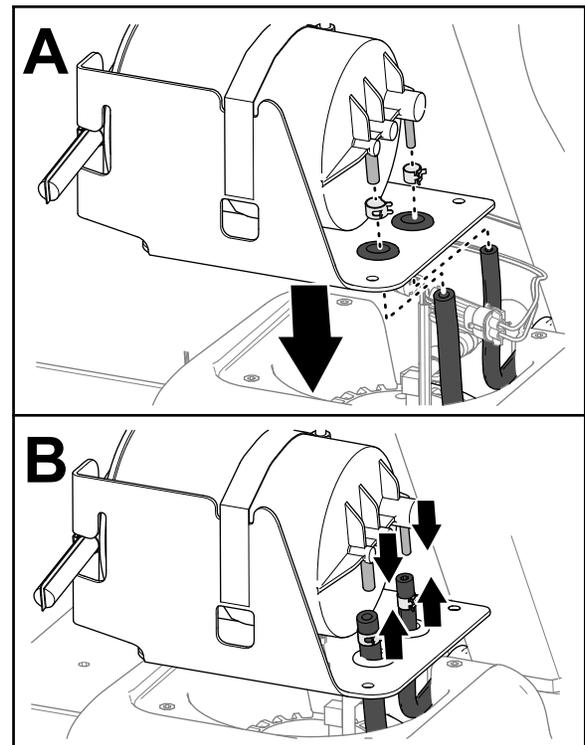

Figure 87
1. Align the fuel tank hoses through the grommets of the carbon-canister bracket (Figure 87).
2. Assemble the hose clamps over the hoses (Figure 87).
3. Assemble the hoses onto the fittings of the carbon canister (Figure 87).